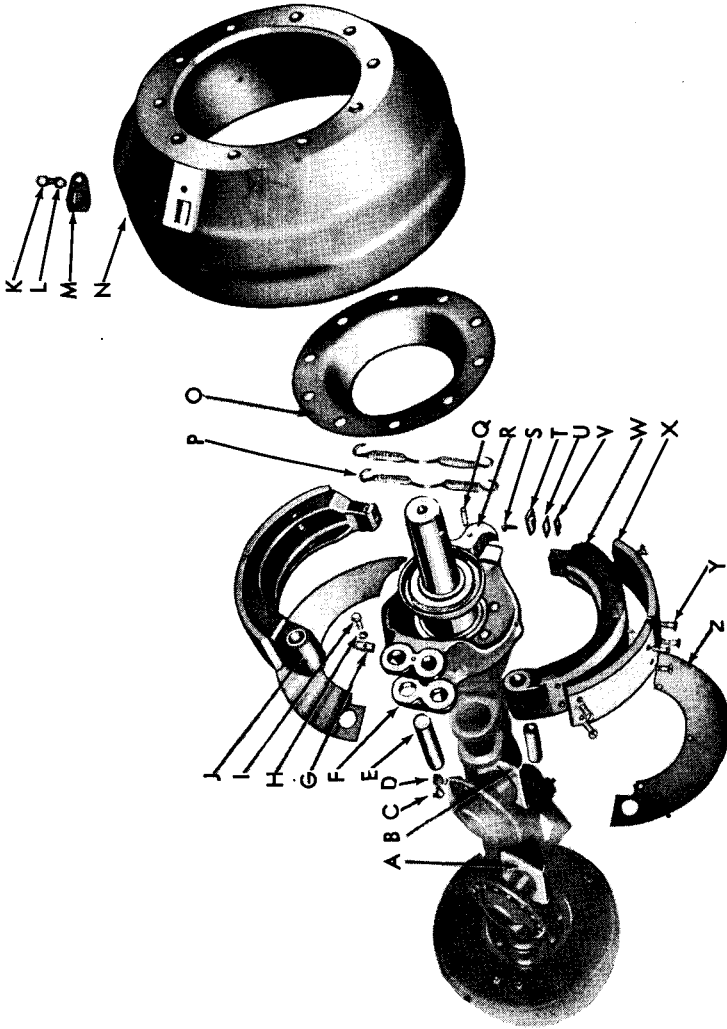

Figure 40—Axle Disassembled
Legend for Figure 40—Axle Disassembled
a. **Removal of Axle Beam.** Jack semitrailer up until wheels clear the ground, and then jack up frame. Place jack under axle to support it when disconnected. Remove wheels, hubs, and drums (par. 34), disconnect air lines and brake chambers. Remove the cotter pins, castle nuts, and bolts attaching radius rod to the spring seat on axle (fig. 39). Remove U-bolt jam nuts and high nuts, and take off the U-bolt clamps. Lower jack supporting axle and remove axle. Remove brake shoes (par. 38). Remove brake chambers and slack adjusters (par. 38 c.). Brake spiders are riveted to the hub (fig. 40). Cut off rivets, and remove entire brake spider assembly complete with camshaft.
a. **Installing Axle Beam.** Install brake spider and camshaft assembly on the replacement axle beam which is to be installed on vehicle. This spider is riveted in place with eight Timken No. X-1260 rivets (fig. 40). Install brake chambers, camshafts, oil seals and brake shoes (par. 38). Support axle on portable jack, and roll into position under trailer with brake chambers toward the rear. Raise axle until spring seats come in contact with the bottom of springs. Clamp axle to springs with U-bolt clamps and nuts, and attach radius rods (par. 44). Tighten U-bolt high nuts, then install